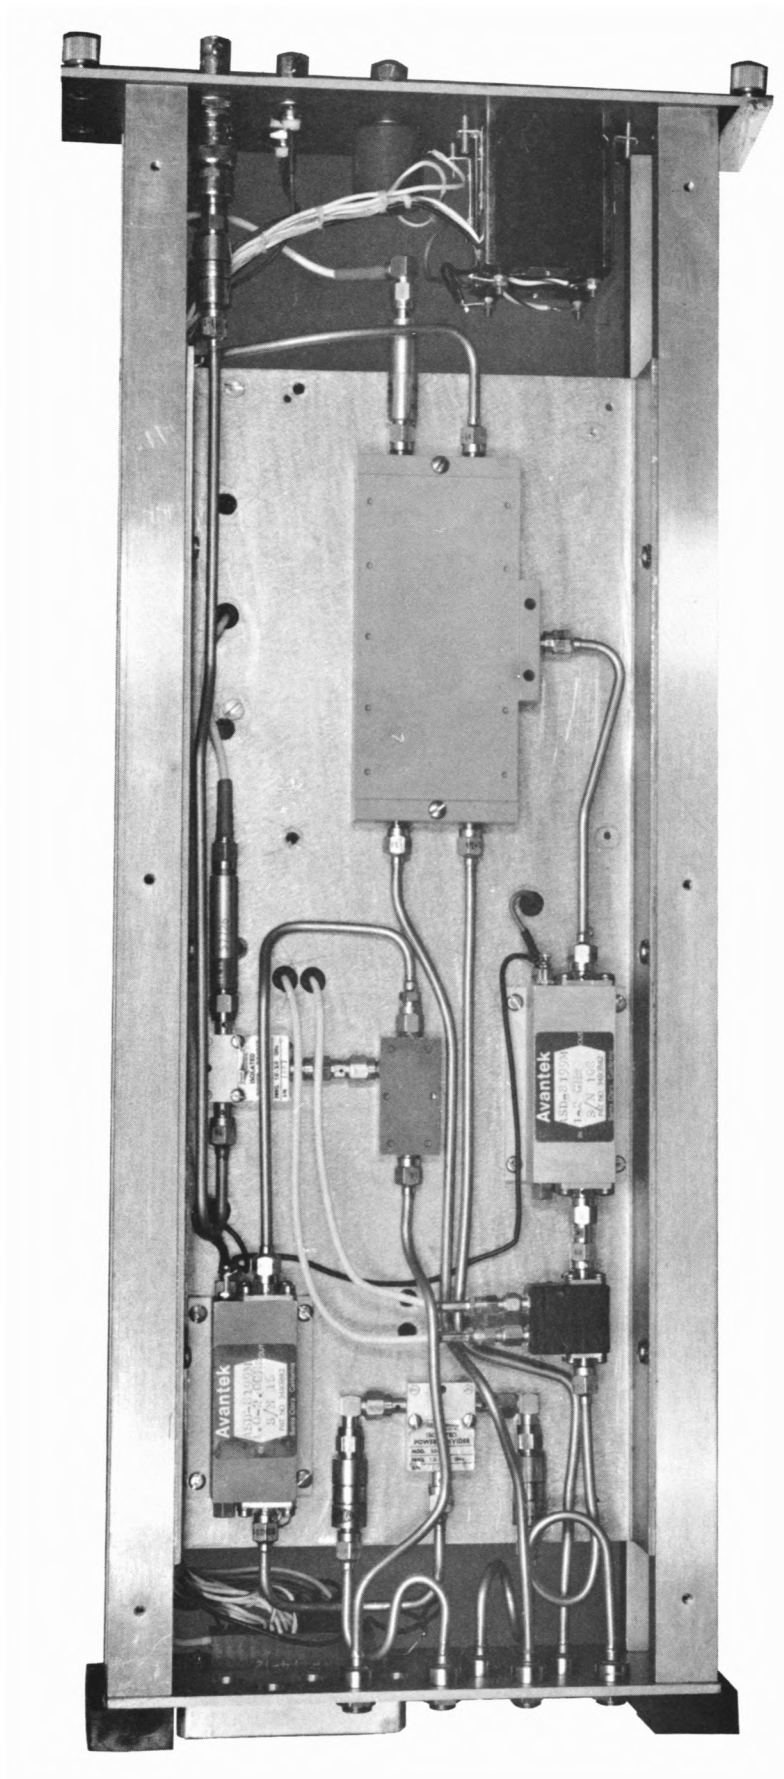
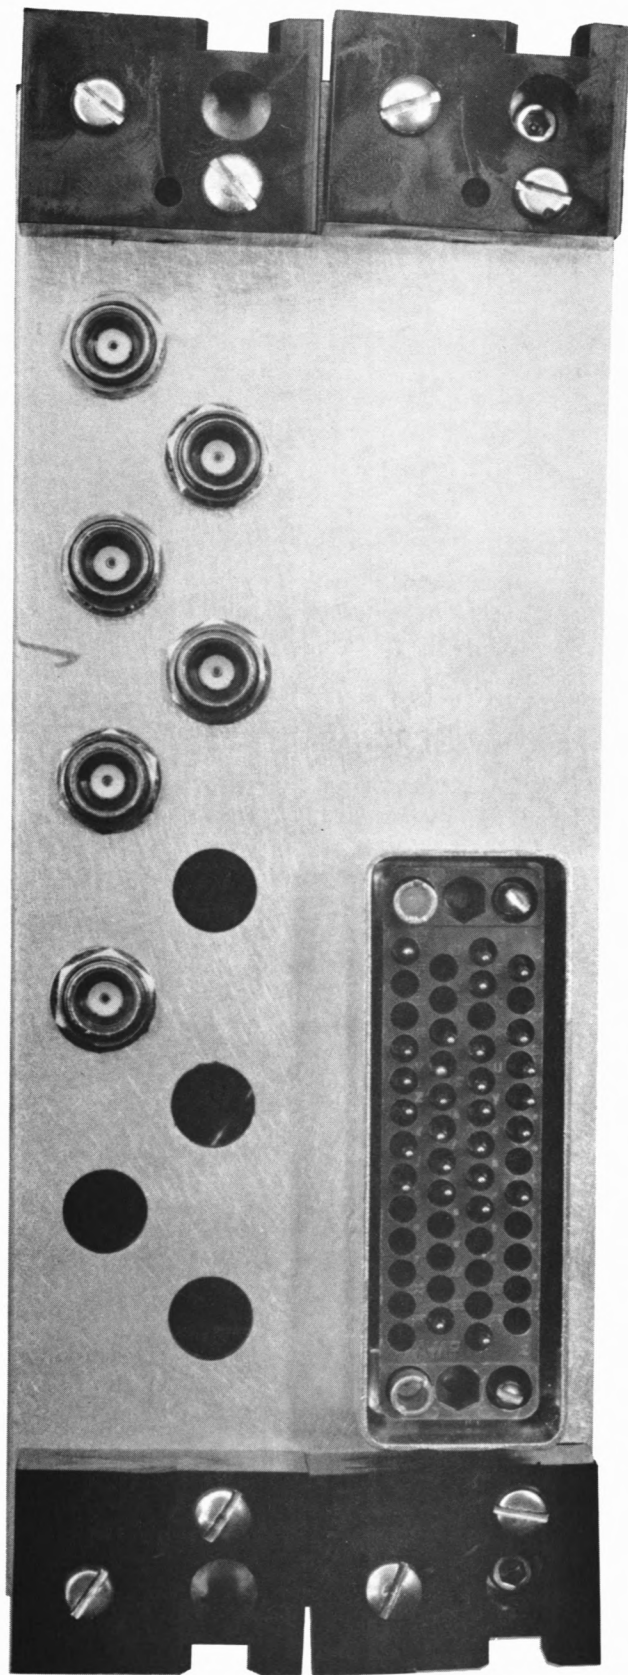

Figure 3: "Right-hand Side View"
Figure 5: "Rear Panel"
- 3.3 Assemble partition plate, bar supports, perforated covers, guides, connector support blocks and P.C. board connectors into one unit. Refer to Figures 3 and 4. Assure that this partition plate and modified support bars are correctly oriented. Refer to Figure 5 for correct orientation of guides. Refer to top assembly drawing No. D13440P6 for proper placement of different length guide machine screws.
- 3.4 Mount RF components onto partition plate as per Figure 3. Assure that all adapters and in-line pads are connected at this time. Note that the General Microwave M190 (Item No. 70) pin diode attenuator is supported with .250" spacers (Item No. 15). Note that the Vectronics DC9107-10MT directional coupler, -10 dB, (Item No. 75) is mounted with one 2-56 x .400" flat head slotted screw (Item No. 42) from the opposite side of the partition plate. Be certain that the input and output connectors on the Aventek amplifiers (Item No. 69) are oriented as shown in Figure 3.
The semirigid coax lines shall follow the general layout shown in Figure 3.